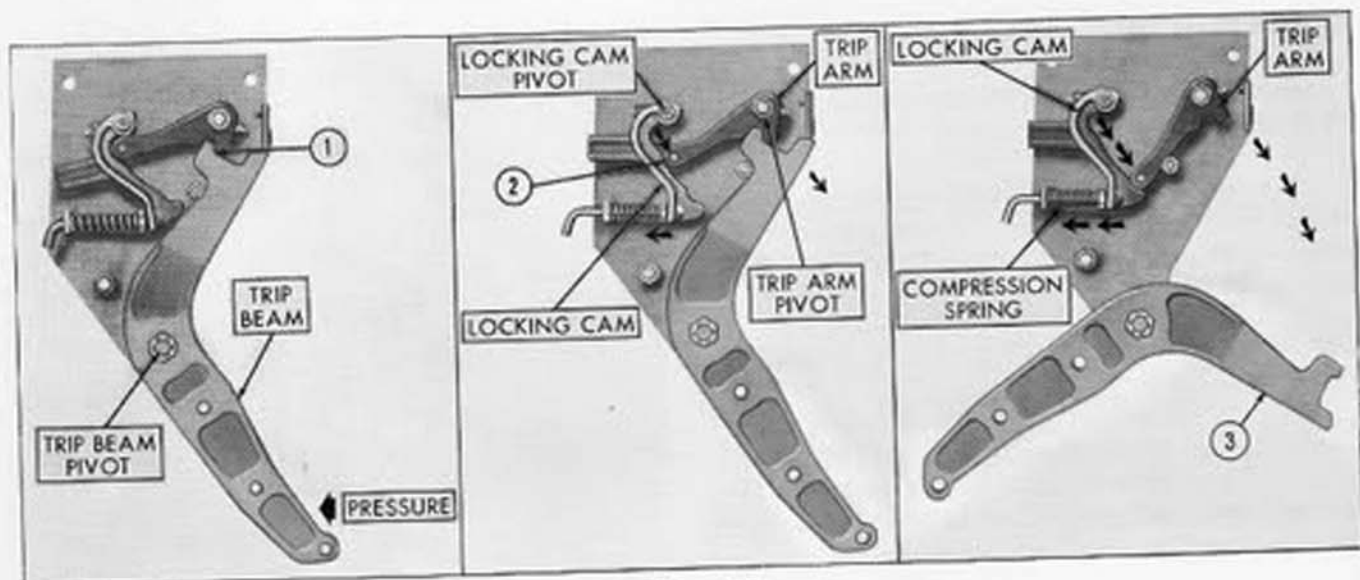

Figure 15
Spring trip beams have a spring trip mechanism. Figure 15 illustrates a complete tripping cycle. The right-hand gusset has been removed to show the working parts of the spring trip. When an obstruction is hit by the plow bottom, the trip beam tends to pivot, exerting a pressure at (1), Figure 15. Pressure at the trip arm causes the trip arm roller (2), to move downward on the inner surface of the locking cam. This action forces pressure against the compression spring. When pressure on the plow bottom becomes greater than the counteracting pressure of the compression spring on point (1), the bottom trips and pivots free of the obstruction.